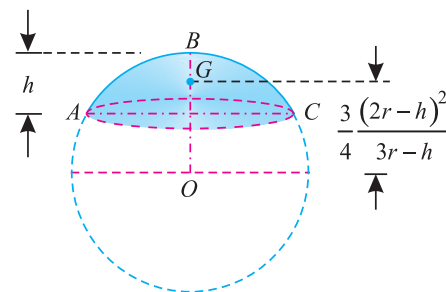

Fig. 6.8. Segment of a sphere
11. The centre of gravity of a segment of sphere of a height  $h$  is at a distance of  $\frac{3}{4} \frac{(2r - h)^2}{(3r - h)}$  from the centre of the sphere measured along the height. as shown in Fig. 6.8.